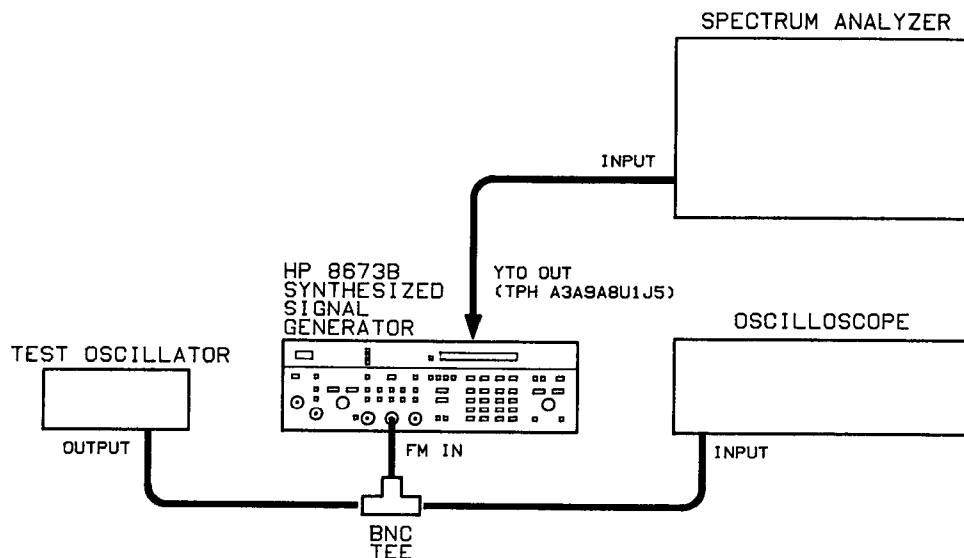

Figure 8-21. HP 8673B FM Test Setup
47. Connect the test equipment as shown in figure 8-21.